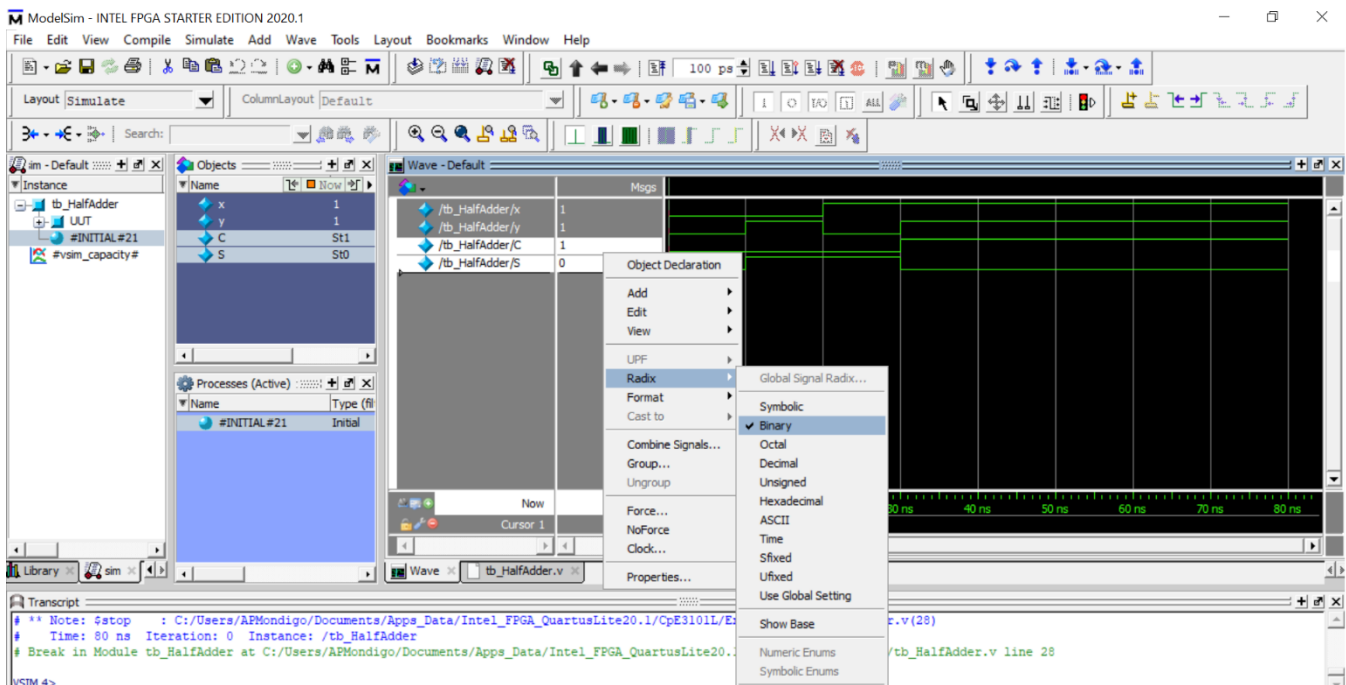

Figure 8. Changing Radix of Waveform Signals
14. You may change the radix of the signals by **right-clicking** on the signals and selecting **Radix > Binary**. See Figure 8 for reference. You may also click on the different time steps in the simulation waveform to see the different input/output values of the Half Adder design.